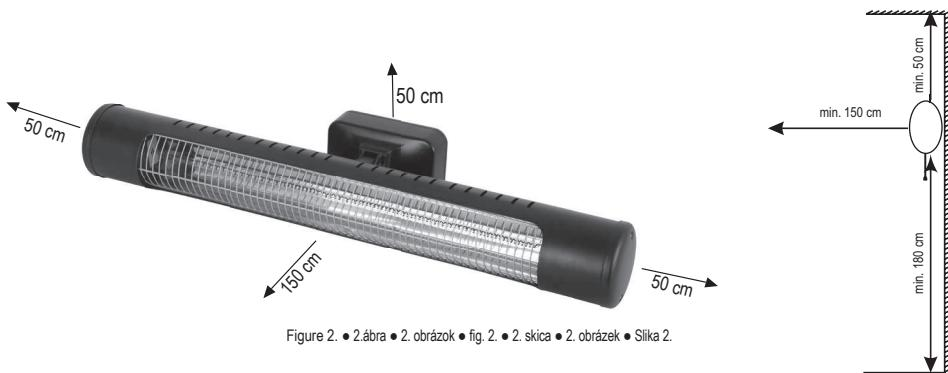

Figure 2. • 2.ábra • 2. obrázok • fig. 2. • 2. skica • 2. obrázek • Slika 2.
6. Never locate the unit directly in corners and observe the minimum mounting distances indicated in Figure 2. Always observe the health and safety regulations valid in the country of use.
4. To ensure proper operation, you have to arrange for the free circulation of hot air. Therefore, please, select the location of the unit on the wall according to Figure 2. It is forbidden to mount the unit directly below a power socket.